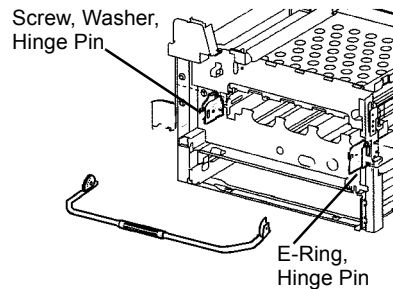

Figure 1 Removing Xerographic Release Lever
10. Remove Xerographic Release Lever (Figure 1).